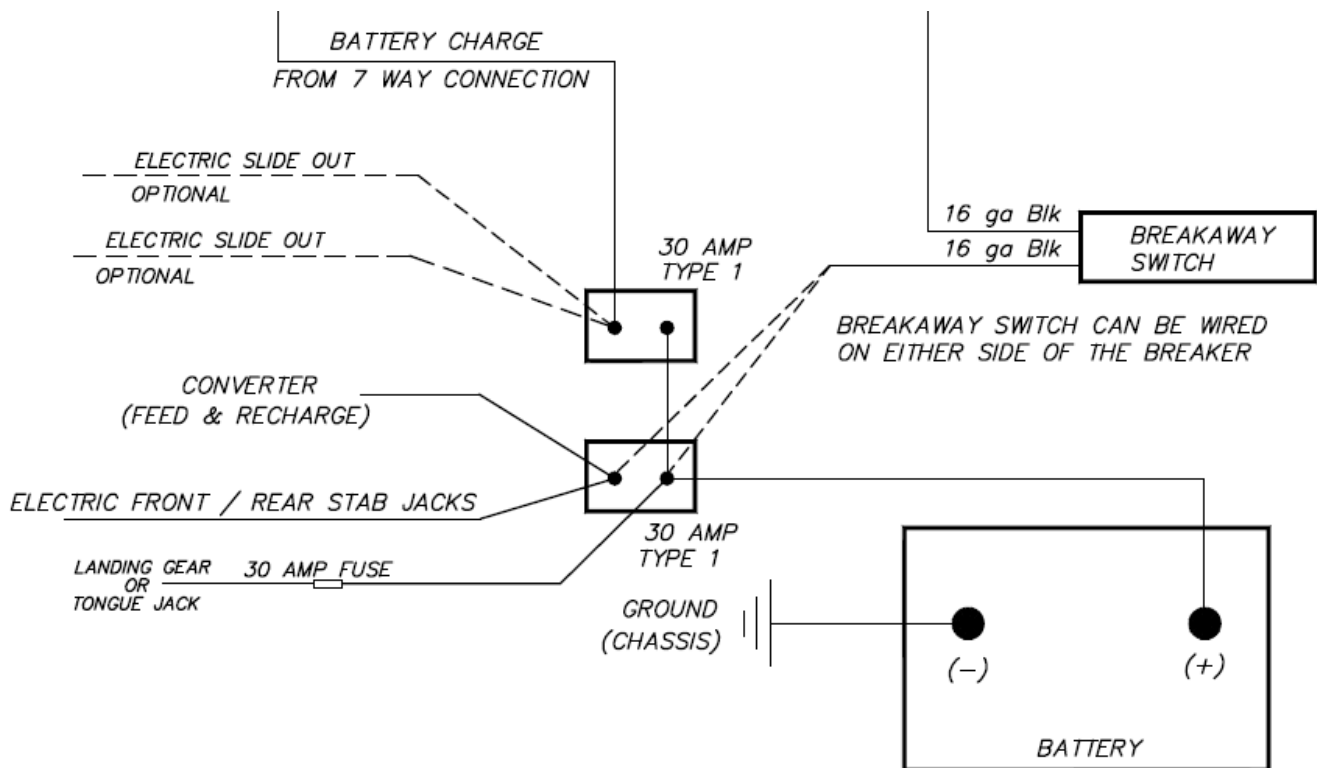

Fig. 1
Step 1 Locate and inspect the resettable breakers tied directly to the battery. Verify all wires connected to the to the output side of the breaker have circuit protection as described in step 2. There are multiple variations of the breaker set up. Use Fig. 1 as a reference.